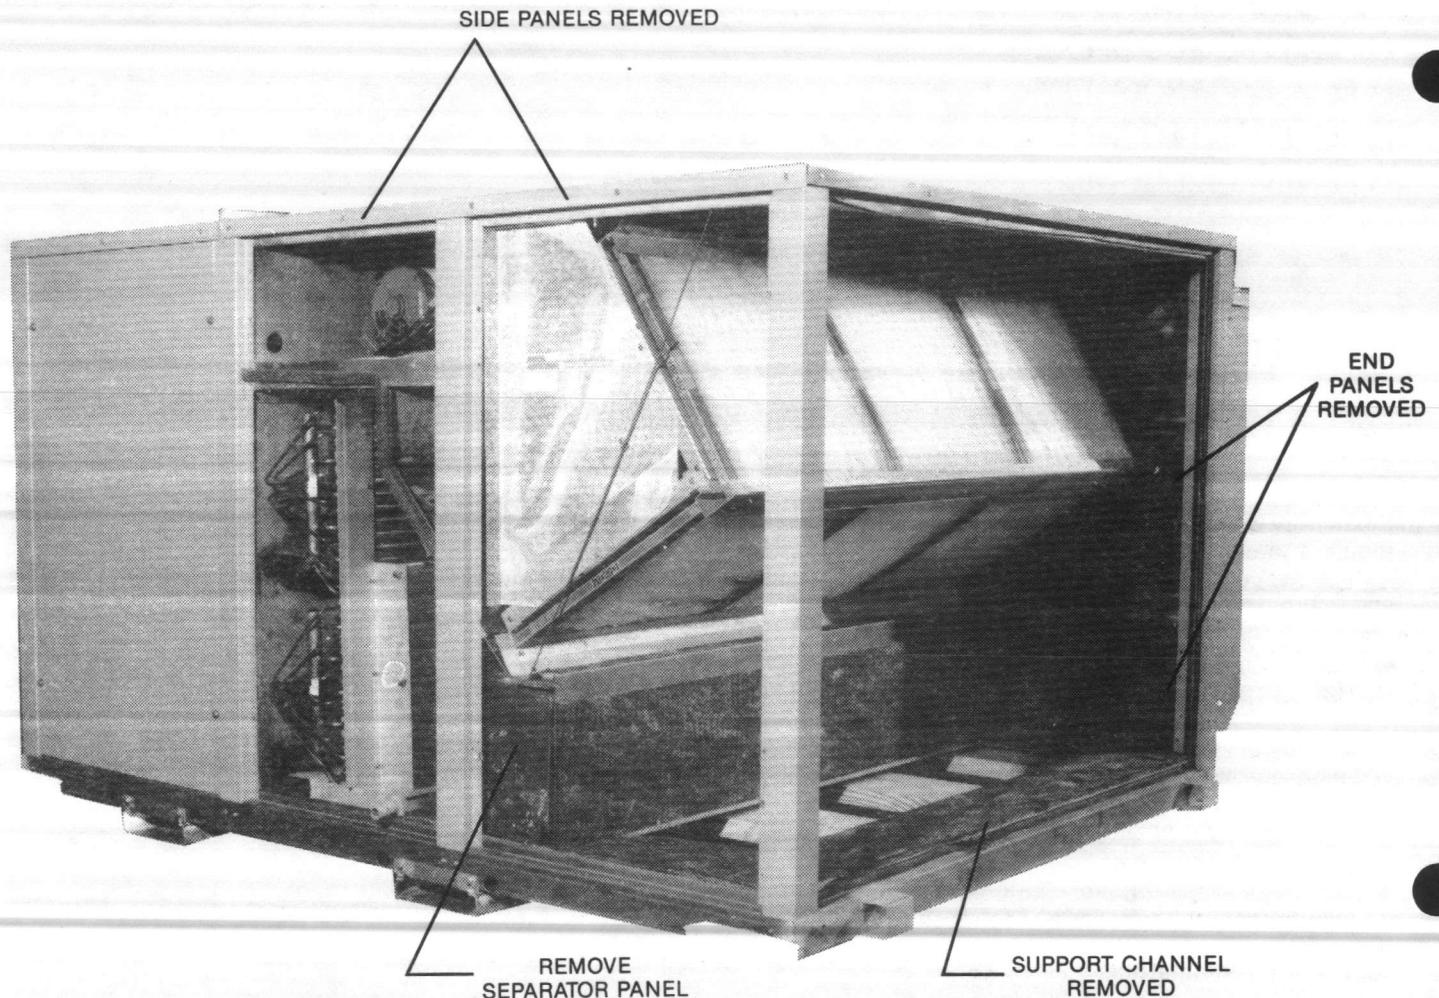

Figure 1 — Removing Unit Panels
1. Prepare the unit for installation by removing 2 side panels, 2 end panels, and the shipping support channel. Remove the screws in the separator panel and remove it. See figure 1.